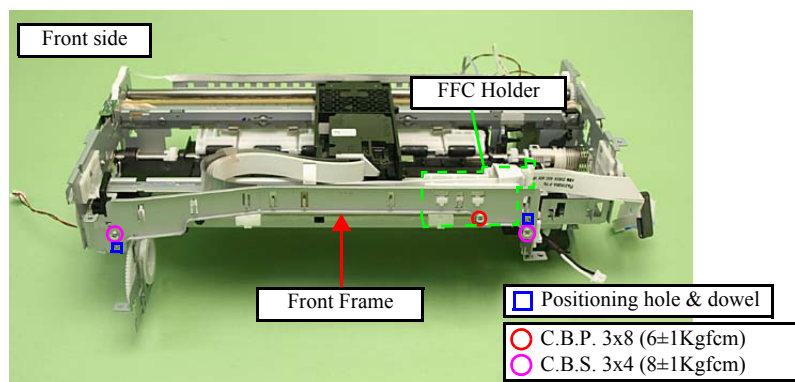

Figure 4-109. Removing the Front Frame
1. Remove the screw (x1) that secures the FFC Holder, and remove the FFC Holder. (See Fig. 4-109.)
Align the positioning holes (x2) of the Front Frame with dowels (x2) of the Main Frame. (See Fig. 4-109)